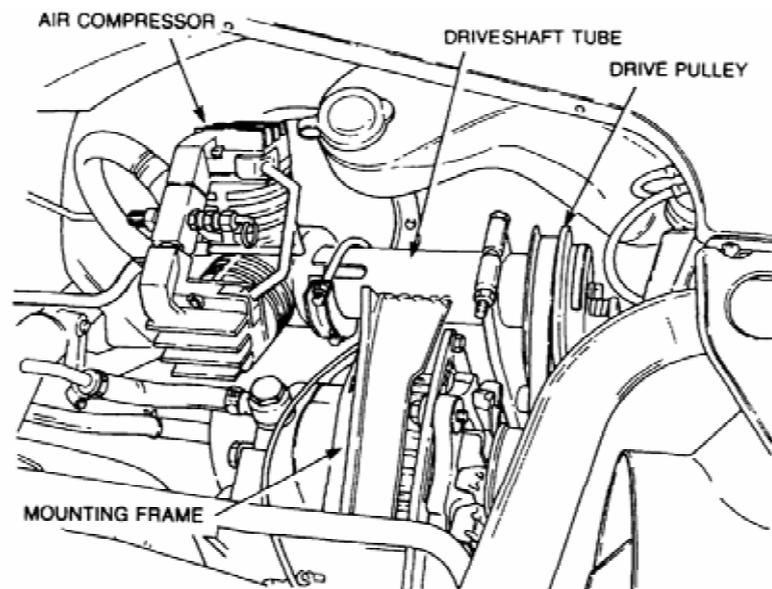

Figure 2 Air Compressor Removal
- d. Slacken the pinch bolt (refer Figure 2) securing the idler pulley lever to the drive shaft tube.